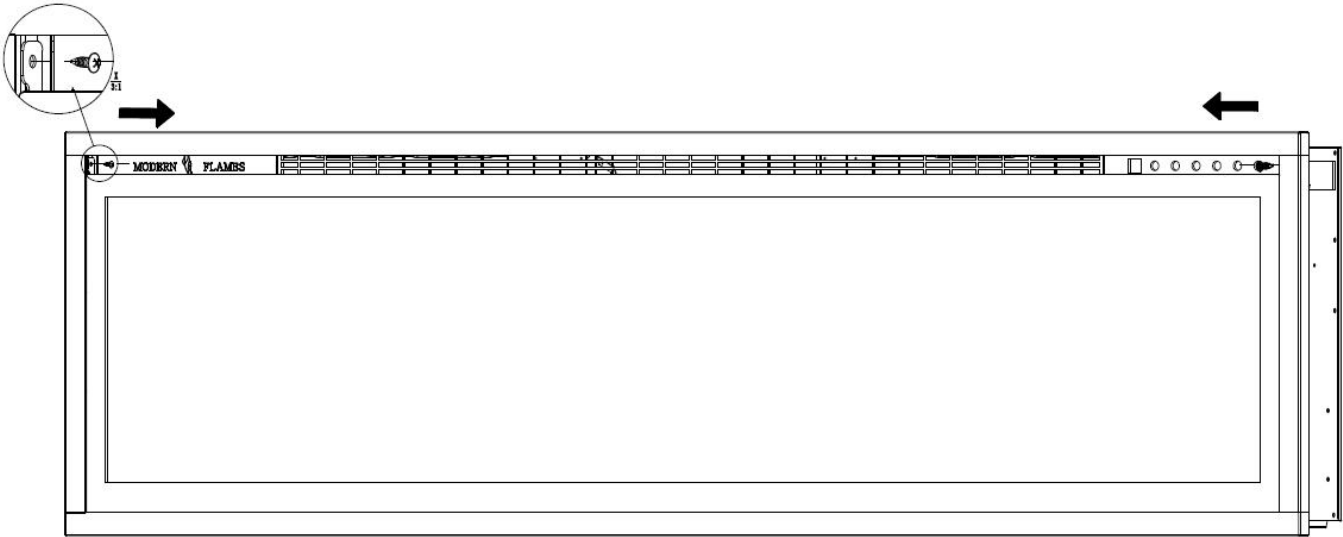

Fig. 1-1
- A. With one hand on the front glass to prevent it from falling, remove the two screws (1 per side) from the side of the appliance (**Fig. 1-1**). Set the screws aside.